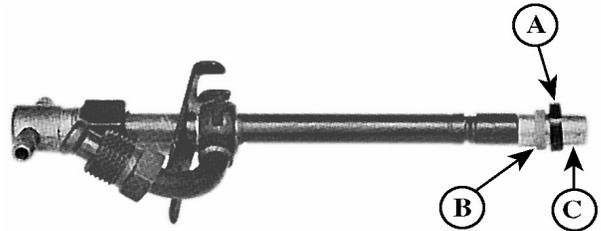

Figure 15
- a. Position JD258 (ROS16477) Pilot Tool (Figure 15-C) over nozzle tip. If Pilot Tool (included in cleaning kit) is not available, use a No. 16189 Nozzle Protector Cap found on every new or replacement nozzle.